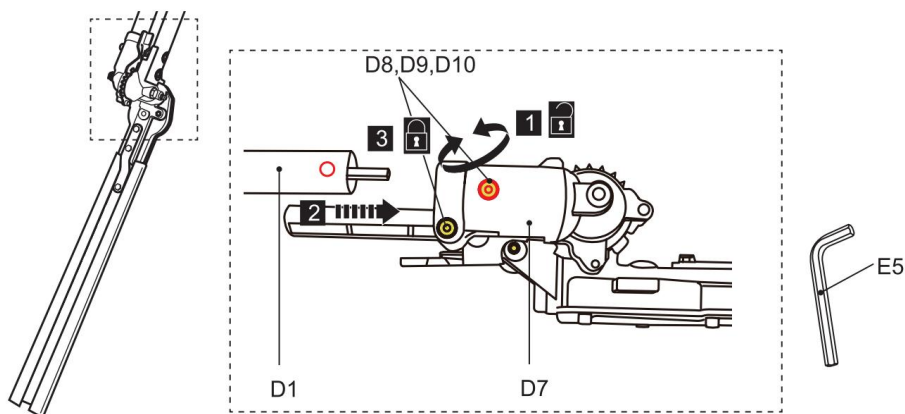

Fig. 20
- 1) Loosen the bolts (D8) using tool (E5) until the lower pole (D1) can be inserted into the support (D7) (Fig. 20, step 1). Do not remove the bolts (D8), spring washers (D9) and washers (D10) from the support (D7).
bolt. Use the arrow marking to help the alignment. (Fig. 20, step 2).
3) Tighten the bolts (D8) to secure the lower pole in position (Fig. 20, step 3).